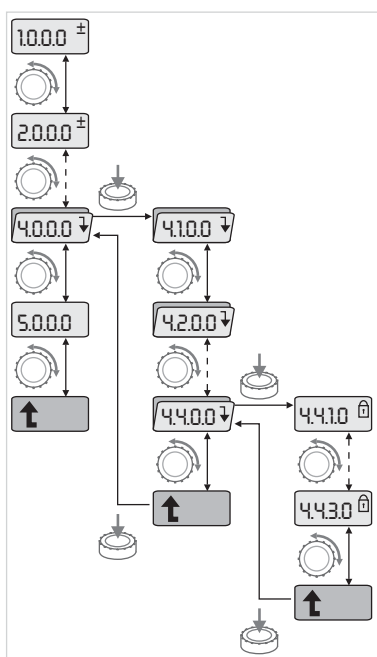

Fig. 30: Navigation example
- Carry out general menu navigation as follows (for an example, see Fig. 30):